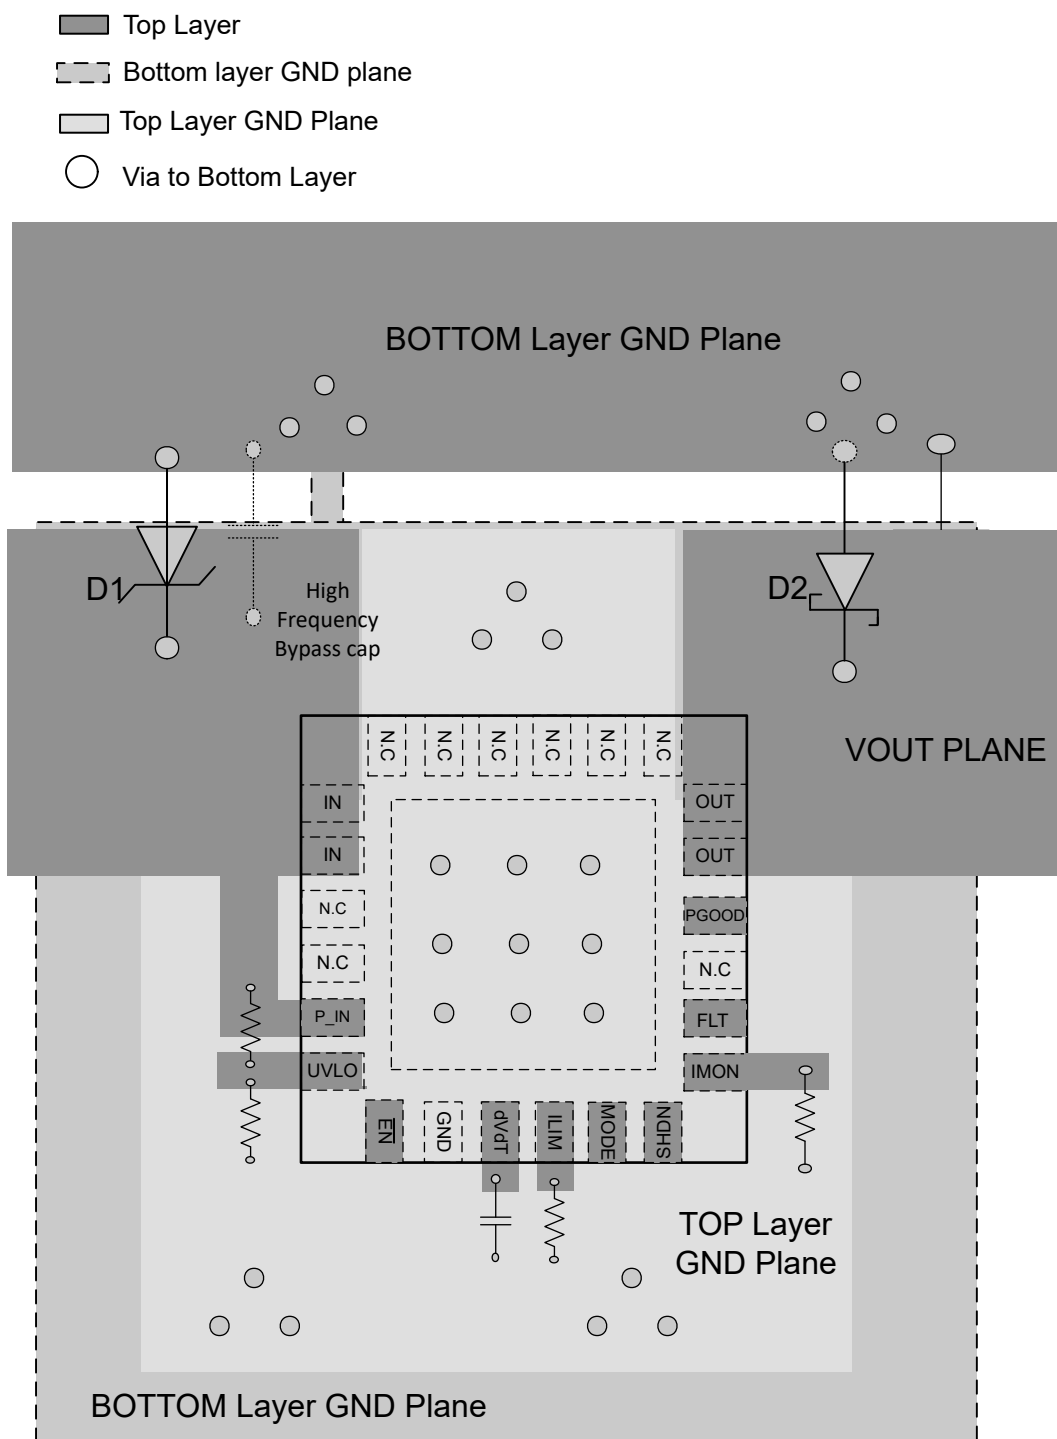
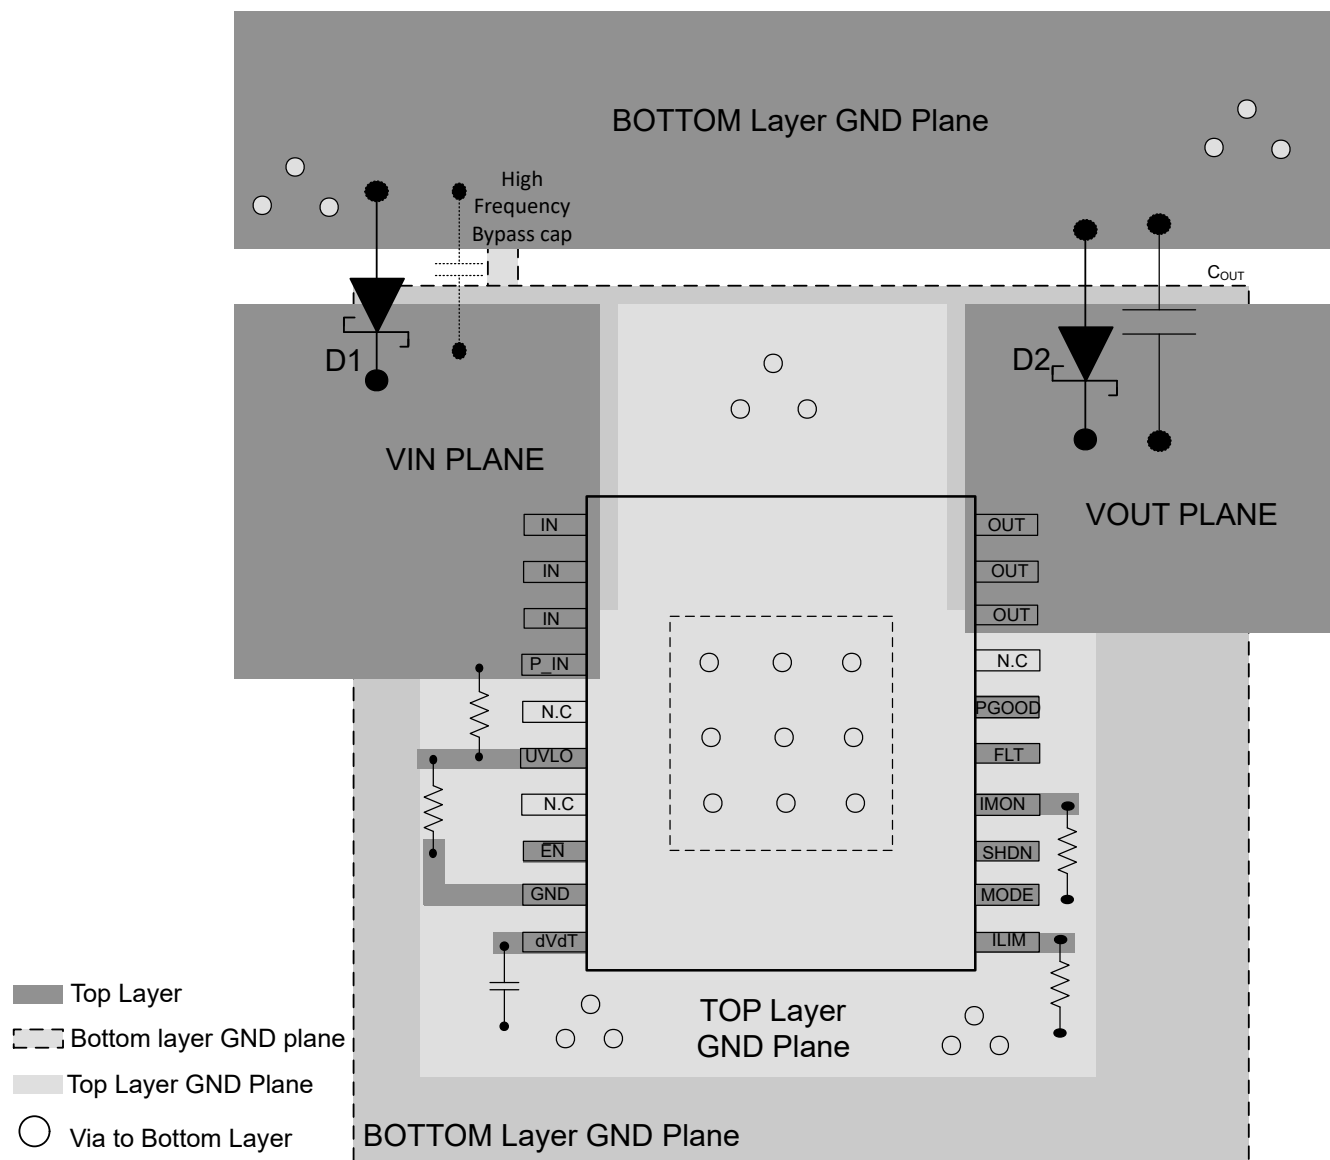

图 11-1. PCB Layout Example With QFN Package With a 2-Layer PCB
图 11-2. Typical PCB Layout Example With HTSSOP Package With a 2-Layer PCB
- High current carrying power path connections must be as short as possible and must be sized to carry at least twice the full-load current. See 图 11-1 and 图 11-2 for a typical PCB layout example.